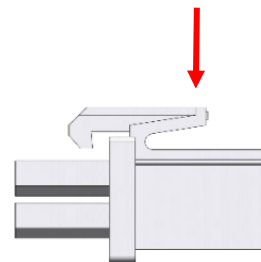

Figure 4-2: Fan Power Connector
3. Gently press the connector locking clip, as shown in Figure 4-2, and slide both ends of the fan's power cable in the opposite direction to disconnect it.